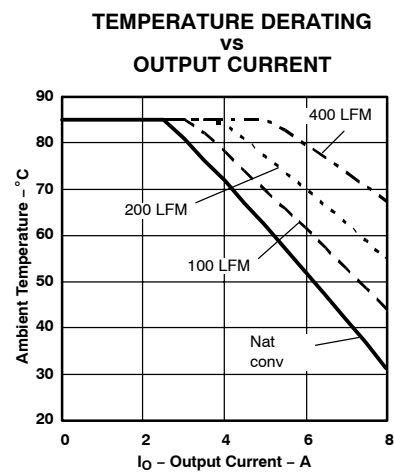

Figure 4.
- (2) The temperature derating curves represent operating conditions at which internal components are at or below manufacturer's maximum rated operating temperature. Derating limits apply to modules soldered directly to a 100-mm × 100-mm, double-sided PCB with 2 oz. copper. For surface mount packages, multiple vias (plated through holes) are required to add thermal paths around the power pins. Please refer to the mechanical specification for more information. Applies to Figure 4.
**PTB48560A Characteristic Data ( $V_O = 5\text{ V}$ )** (3) (4)